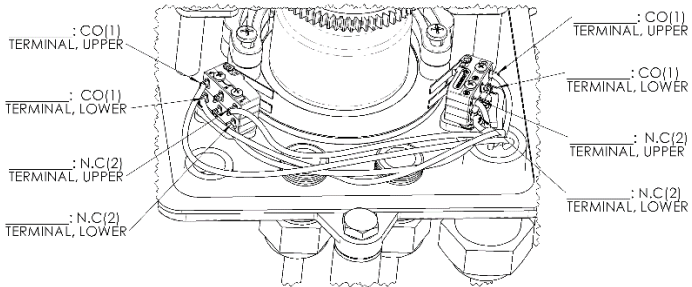

Figure 8: Wiring schematic for customer fill out, four switch module
- Note connections of all wires going to the old microswitches prior to disconnecting by filling in the colors of wires in Figure 8. On the old microswitch, Kobelt PN 6001-0104, the terminals are labelled 1 and 2, and correspond to terminals 1 and 2 on the new microswitches.
- a. Follow the wiring connections that were noted in step one, Figure 8.
- c. In case of discrepancy between noted wiring and factory wiring, it is recommended to keep wiring as noted in Figure 8 as the wiring may have been altered in the field at original installation. This will ensure the RFU behaves in the same manner as prior to the retrofit.